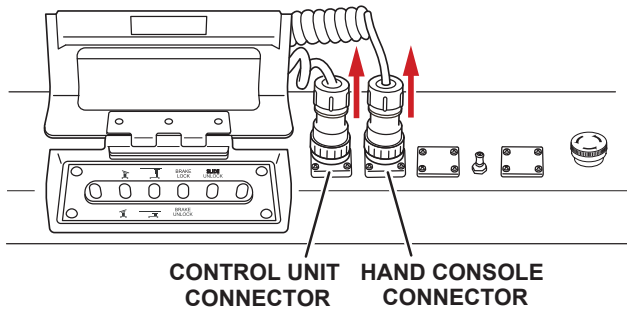

Figure 36. Disconnect Controllers
1. Disconnect the control pendant and the hand console from the back pack (Figure 36).